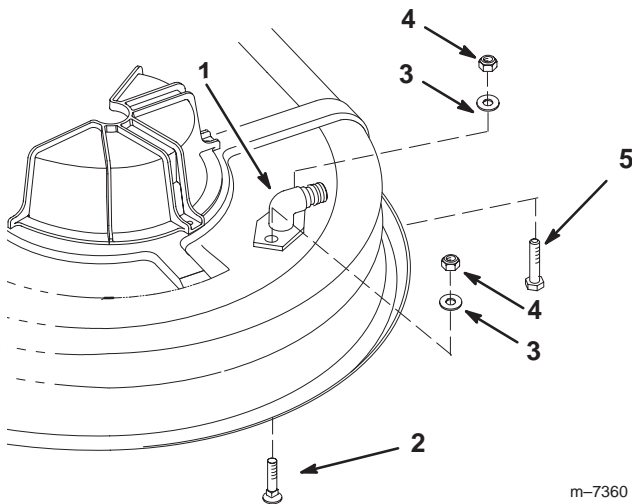

Figure 7
2. Secure the washout fitting to the new holes with one bolt (1/4 x 3/4 inch), one washer (1/4 inch), and one lock nut (1/4 inch) as shown in Figure 7.
3. Use the carriage bolt (1/4 x 3/4 inch) in the existing open square hole, one washer (1/4 inch), and one lock nut (1/4 inch) as shown in Figure 7.